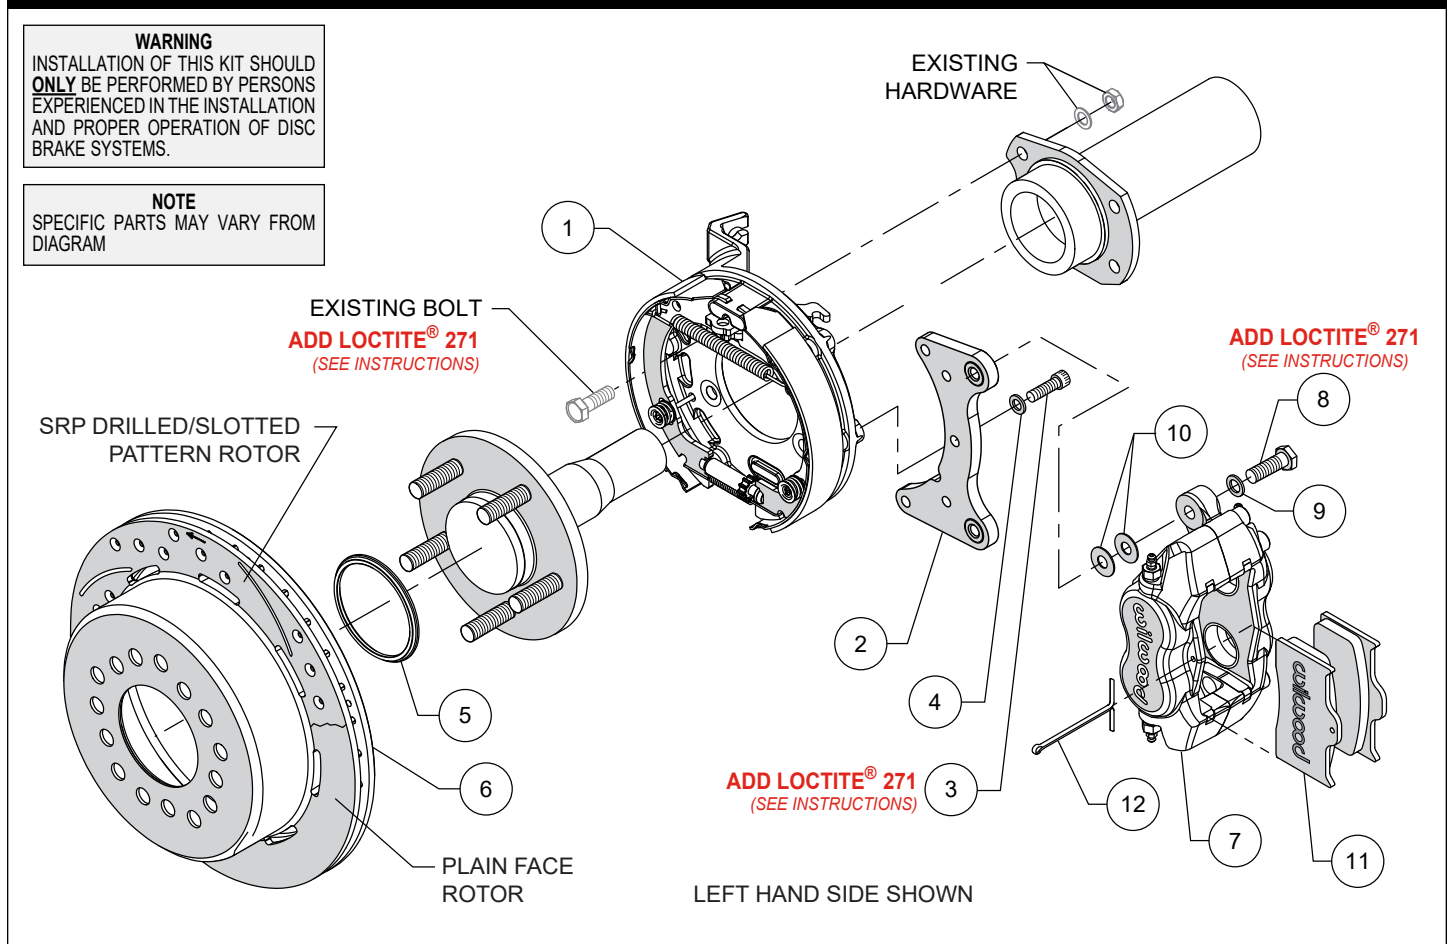
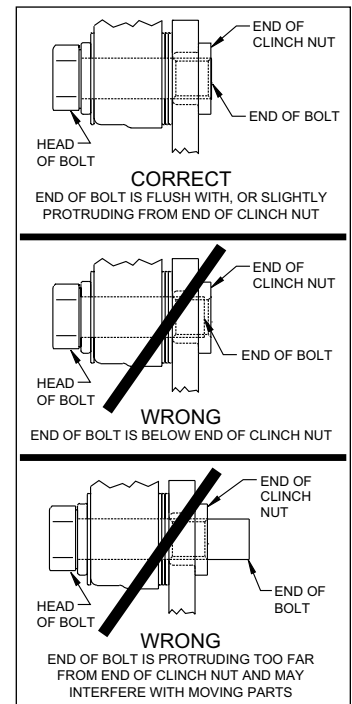

Figure 1. Typical Installation Configuration
Figure 4. Clinch Nut Engagement Diagram
NOTE: Numbers in parenthesis refer to the parts list and Figure 1 on the preceding pages.
CAUTION: All mounting bolts must fully engage clinch nuts. Be sure to check that all bolts are either flush or protruding through flanged side of clinch nut after shimming, Figure 4.
- Orient the parking brake assembly (1 and 2), as shown in Figure 1, and mount to the axle housing flange using the Original Equipment Manufacturer (OEM) bolts and nuts, Figure 1 and Photo 1. Ensure that the parking brake assembly backing plate fits flush against the axle housing flange. Apply red *Loctite*® 271 to the OEM bolt threads and torque to OEM specifications.
- Install the caliper mounting bracket (2) to the parking brake assembly (1) using bolts (3) and washers (4) as shown in Figure 1 and Photo 2. Apply red *Loctite*® 271 to the bolt threads and torque to 25 ft-lbs.
- Align the correct hole pattern in the rotor/hat with the stud pattern on the axle flange and slide into place, Figure 1. **NOTE:** The rotor/hat must fit flush against the axle flange or excessive rotor run out may result. Install three lug nuts (finger tight) to keep the rotor/hat assembly in place while continuing with the installation.
- NOTE:** Please reference the caution statement at the beginning of the assembly instructions. Mount the caliper (7) onto the caliper mounting bracket (2) using bolts (8) and washers (9), as shown in Figure 1. Initially place two .035" thick shims (10) on each bolt between the caliper and the bracket, Photo 4. Temporarily tighten the mounting bolts and view the rotor (6) through the top opening of the caliper. The rotor should be centered in the caliper, Photo 5. If not, adjust by adding or subtracting shims (10) between the bracket and the caliper. Always use the same amount of shims on each of the two mounting bolts. **NOTE:** The end of each bolt must be flush with or slightly protruding from the head of the clinch nut, as shown in Figure 4. If necessary place spare shims between washer (9) and caliper mounting ear to achieve the proper clinch nut engagement. Once the caliper alignment and clinch nut engagement are correct, remove the bolts one at a time, apply red *Loctite*® 271 to bolt threads, and torque to 40 ft-lb.